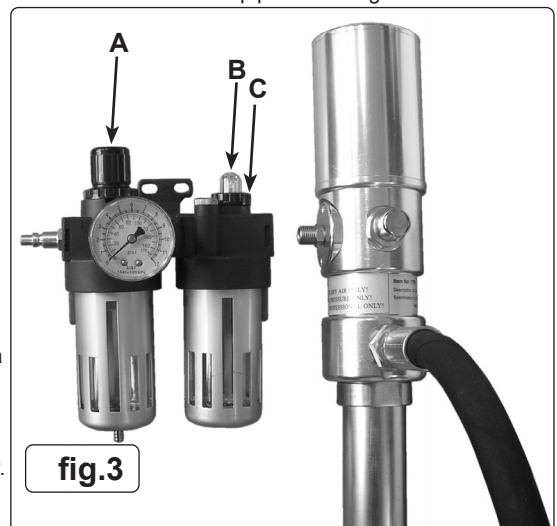

fig.3
- 4.2.1. Apply a small amount of liquid thread sealant onto the threads of the air inlet of the pump and attach the air regulator/lubricator (fig.3).